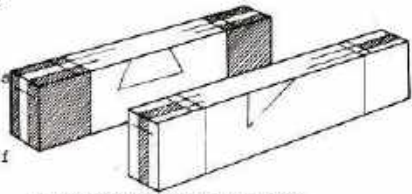

Fig. 444. LAYING OUT MORITSE AND TENON
1. Plane them to the finished over-all size and mark with a gauge the width of rabbet along the face edge. Then the depth of the rabbet is also marked on the back of the stile. Fig. 444, 445
Once again the parts should be clamped together temporary after the rabbet has been gauged. Mark first the over-all door width, then the width of the stiles and the depth of the rabbet and square across the face-edges. The front shoulder will be cut off longer and the back shoulder shorter. Fig.444